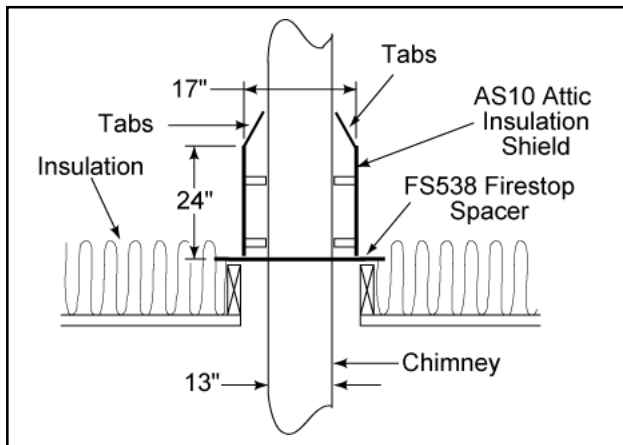

Figure 12 - Installing an Insulation Shield
- Slide the shield down until it rests on the firestop spacer. The firestop spacer will support the insulation shield. See Figure 12.